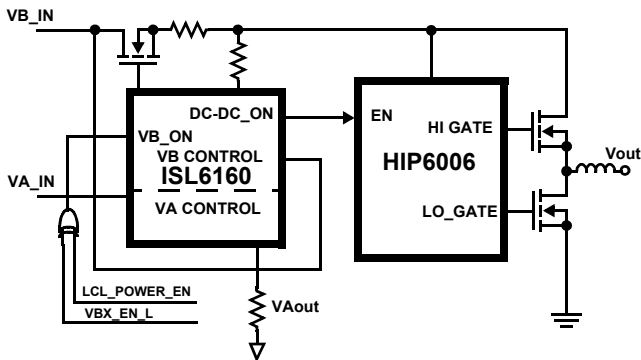
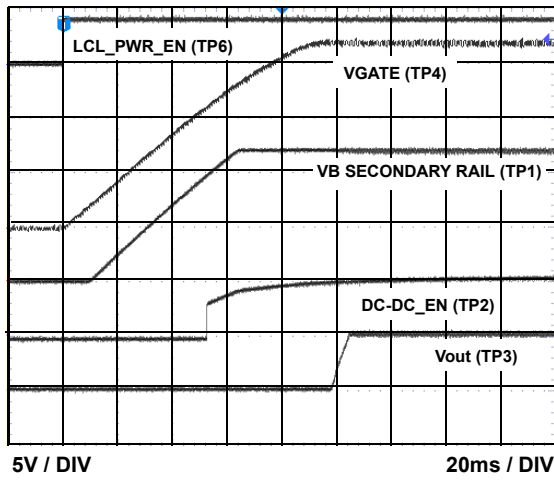

FIGURE 2. SIMPLIFIED ISL6160EVAL2 BLOCK DIAGRAM
FIGURE 19. ISL6160EVAL2 Vout TURN-ON
On the IM the ISL6160 is necessarily paired with a DC-DC converter to convert 12V to a lower usable voltage for the application circuitry. Figure 2 shows a block diagram of a complete IM power sequencer and power supply using the ISL6160 and a HIP6006, single output PWM DC-DC converter.
Available from Intersil is the ISL6160EVAL2. The ISL6160EVAL2 is a complete InfiniBand Class I (non isolated) power topology evaluation platform consisting of the ISL6160 and the HIP6006 single output PWM controller. See Figure 2 for a simplified block diagram of the ISL6160EVAL2 platform. This evaluation platform allows the Infiniband Module (IM) power supply designer to evaluate the concept of this design and apply it to a specific IM power requirement. The evaluation platform is configured for 5V Vout and 3A Iout capability and exhibits a 92% total efficiency. See Figures 19 and 20 for ISL6160EVAL2 turn-on and turn-off waveforms.